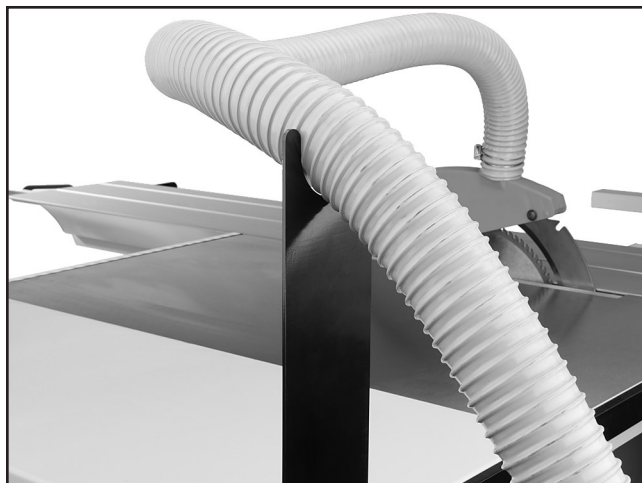

Figure 53. Dust hose support in use.
5. Run the 2½" hose over the hose support (**Figure 53**) and connect it to the dust collection system.